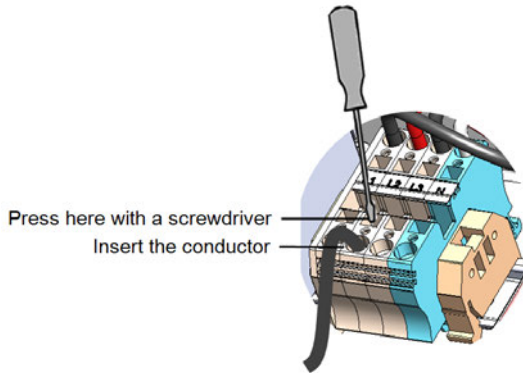

Figure 24: AC Spring-clamp terminal – 9kW, 10kW, 20kW inverter
- a. Use a standard flat-blade screwdriver to connect the wires to the spring-clamp terminals (See *Figure 24*).